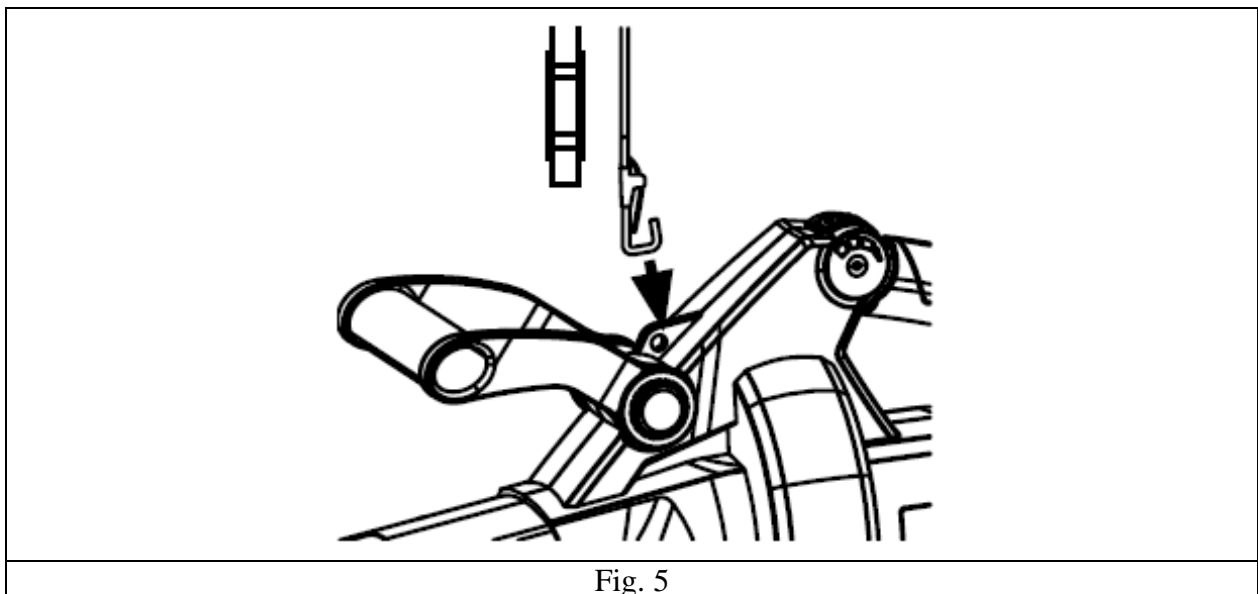

Fig. 5
- The shoulder strap can be connected to the mounting point (just behind the front handle) with the clip. (Fig 5)